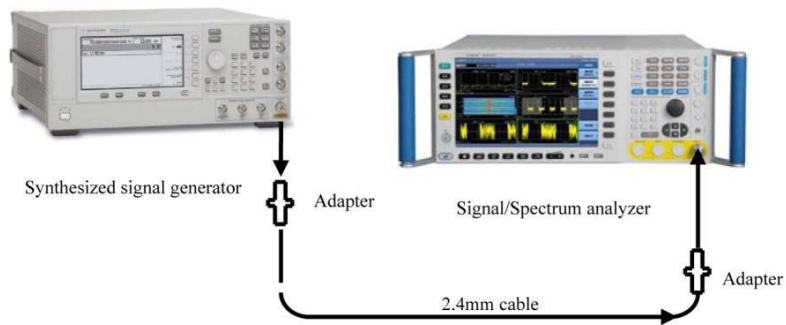

Fig. 8.18 Schematic diagram of phase noise test
- 1) Connect the test instrument as shown in Fig. 8.18 and connect the signal output interface of the synthesized signal generator to the signal input interface of the S3503 analyzer.